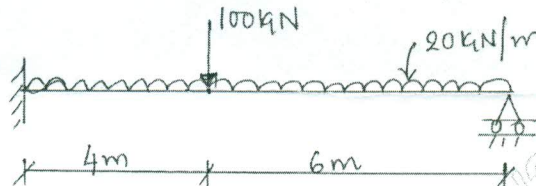

Fig.Q7(b)
b. Obtain consistent nodal vector due to the loads acting on the beam as shown in Fig.Q7(b). (07 Marks)